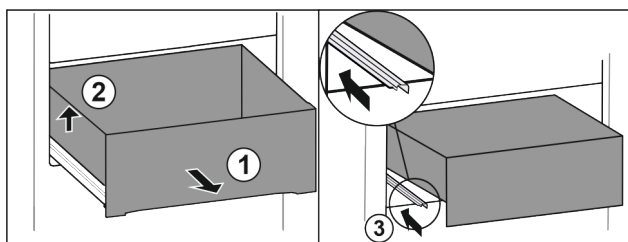

Fig. 181
- Pull out drawer as far as it will go. Fig. 181 (1)
- Lift drawer on the left. Fig. 181 (2)
- Insert left rail. Fig. 181 (3)